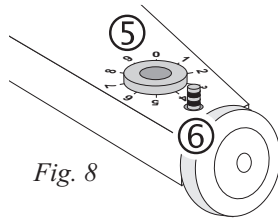

Fig. 8
Adjust the floor slope knob ⑤ until slope register is approximately centered on number 3 ⑥, see fig. 8.